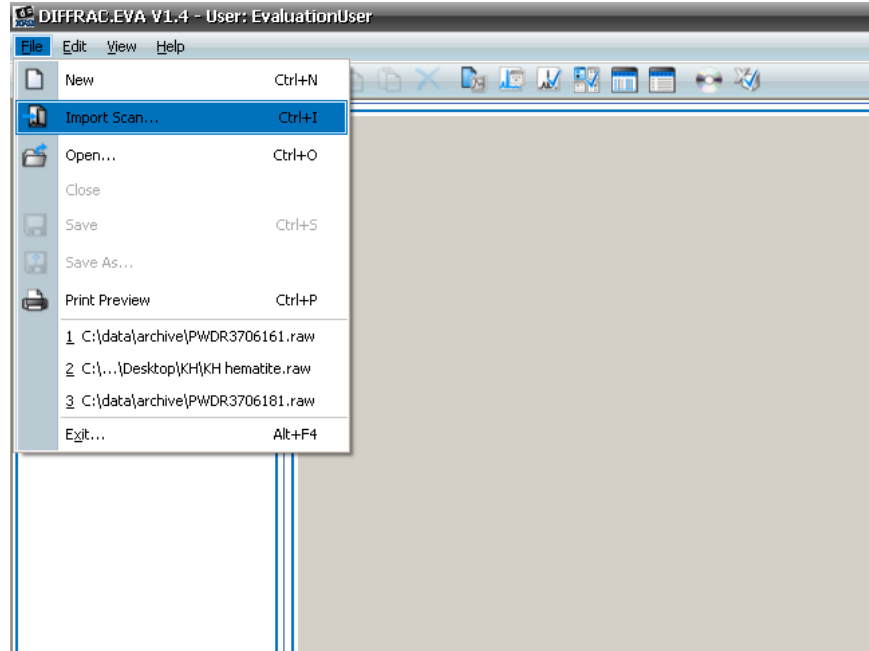

Figure 1. Open Scan.
1.	Click File > Import Scan (Figure 1).